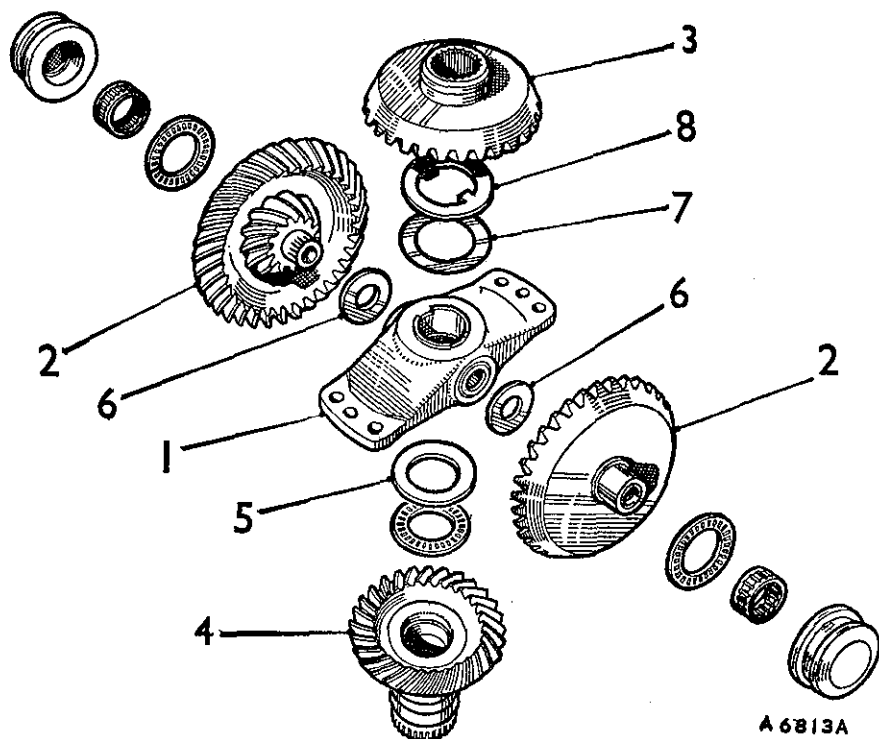

Fig. Fa.42
The gear train is accurately assembled with special equipment to obtain the correct backlash on the various gears and it is not possible to assemble this unit to factory standard without this special equipment. In the event of failure of any part of this unit a new complete gear train assembly must be fitted. The only washer in the gear train which can be renewed is the forward output gear bi-metal washer (8) (see Fig. Fa.42); this is not a selective size washer.
- (8) To dismantle the early-type gear train assembly as shown in Fig. Fa.42, refer to items (16) to (19), with the reassembly sequence given in items (33) to (36).
- (33) Carry out items (20) to (23) with the following exceptions: Refer to Fig. Fa.42, and use Service tool 18G 1093 when reassembling this early-type gear train.
(34) Refit the bearings caps to their respective positions (see markings) and using new locking plates, refit and tighten the bearing cap and carrier bolts to the torque figure given in 'GENERAL DATA'.